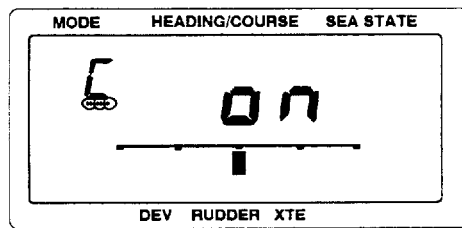

Fig. 6-3 Indication while clearing the memory
2. Press  to clear the memory. Fig. 6-3 shows display appearance while the memory is being cleared.